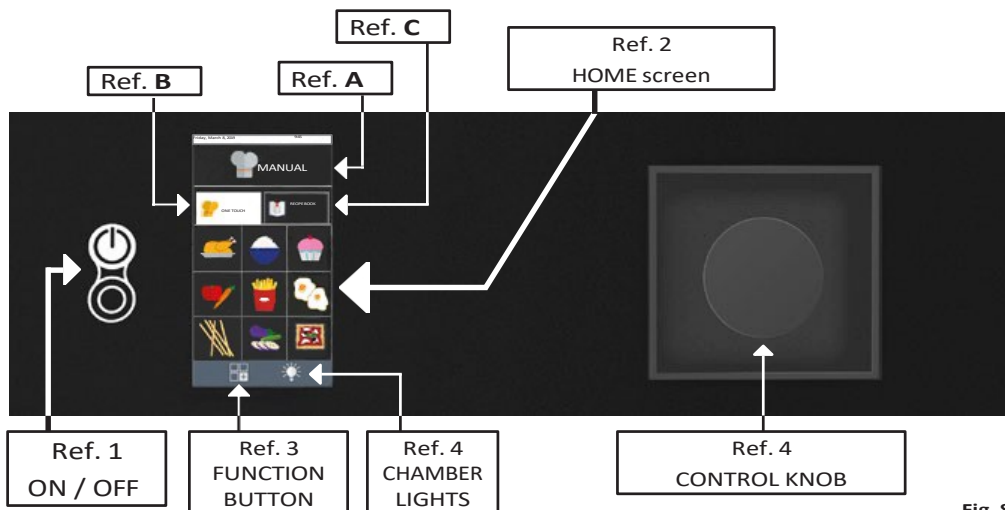

Fig. 8
Turn on the combi oven using the "ON/OFF" button **ref. 1 fig. 8**.
- The lights inside the cooking chamber will turn on when you press the corresponding button (**Fig. 8 - ref. 4**) and will automatically turn off after 45 seconds if they are not turned off earlier by pressing the button again.